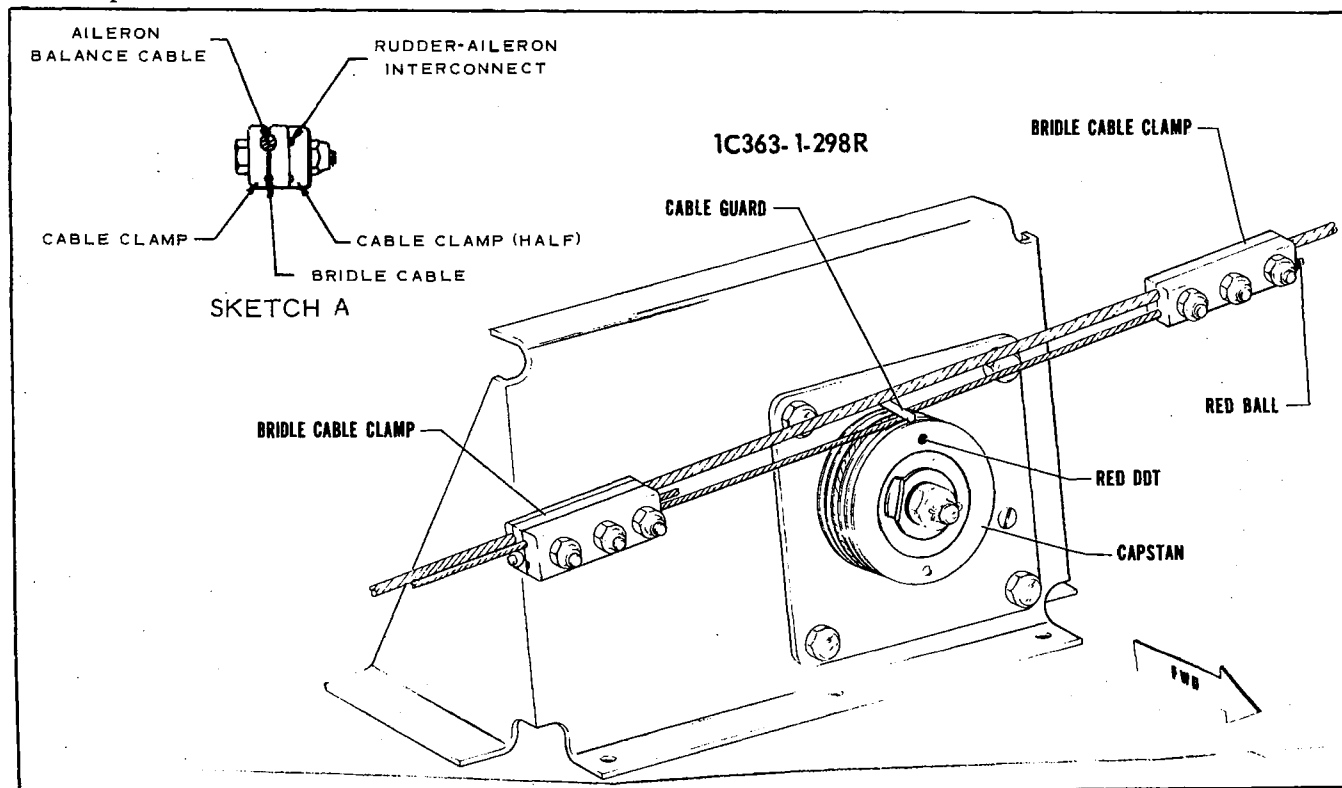

Figure 3-29. Roll Servo Installation, PA-34-200
3-61. INSTALLATION OF ROLL SERVO. (PA-34-200.) (Refer to Figure 3-29.)
- e. REFER TO FIGURE 3-13 AND CHECK THAT THE CONTROL CABLE TENSION (Z) IS ADJUSTED TO 40 +5 -0 POUNDS PRIOR TO ATTACHING THE BRIDLE CABLE CLAMPS. Ascertain area on cable where clamp attaches is clean, dry and free of all lubricants and anti-corrosive additives. Attach the bridle cable to the aileron balance cable. The bridle cable is drawn to the balance cable and attached with clamps at the previously painted locations on the balance cables. The longest portion of the bridle cable or the end with the red ball extends outboard toward the left side of the airplane. (Refer to Figure 3-29.) (Should the balance cable not be painted, position the control wheel in neutral and the bridle cable pin, installed in the capstan, at 180 degrees from the balance cable.) The rudder-aileron interconnect cable is attached to the inboard bridle cable clamp by the addition of a half of a bridle cable clamp. (Refer to Figure 3-29, Sketch A.) Adjust the bridle cable clamps so the bridle cable tension (Y) is equal to the control cable tension between the bridle cable clamps (X) as shown in Figure 3-13 without increasing the control cable tension from the bridle cable clamps outward. At no time shall the bridle cable tension be greater than the control cable tension between the clamps. Adjusting the bridle cable tension will lower the control cable tension between the two bridle cable clamps. Torque the bridle cable clamp nuts to 55 +5 -0 inch-pounds.